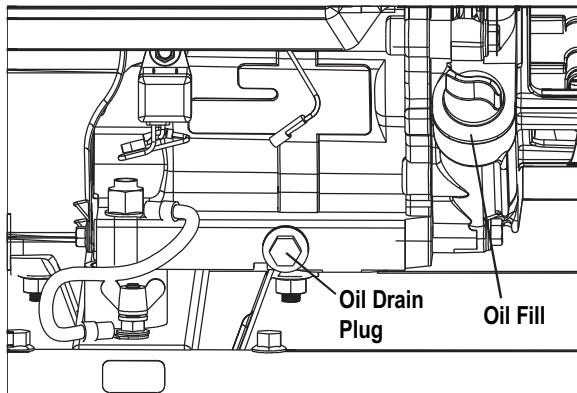

Figure 4-1: Oil Drain Plug
1. Clean area around oil drain plug (Figure 4-1).